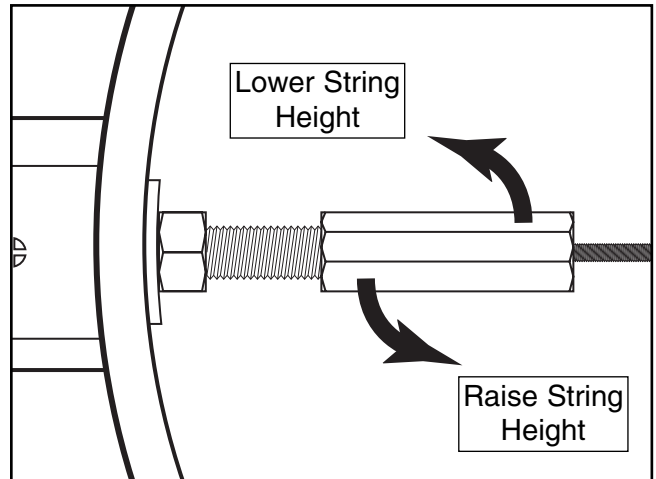

Figure 19. Adjusting string height.
3. Turn the coordinator rod to adjust the string height as shown in **Figure 19**. Note—DO NOT adjust string height more than $\frac{1}{16}$ ". This may cause damage to the banjo rim.